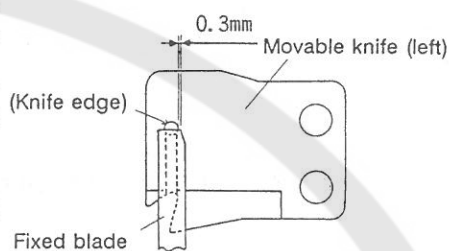

Fig. 5
- (1) Fig. 5 shows the standard state.
- (2) If the dimension indicated in Fig. 5 is too large, three-thread breakage will occur, leading to needle thread cast-off, etc. after the thread trimming. Reversely, if the dimension is too small, thread trimming error may result. Therefore, caution must be exercised.
- (3) Make the adjustment in (2) in the installation procedure of fixed blade bracket unit or in the installation procedure of fixed blade.